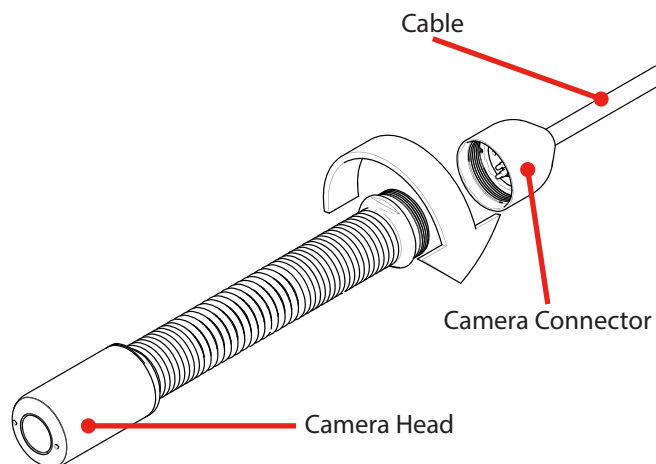

FIG. 8
3. INSTALL CAMERA HEAD (FIG. 8)